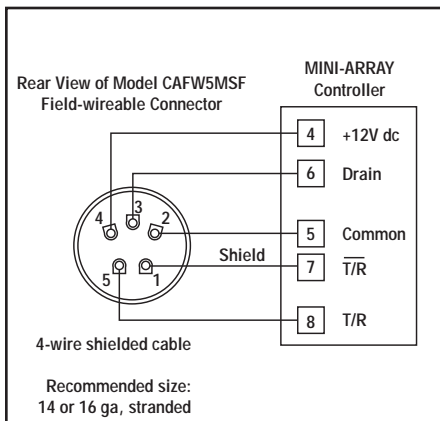

Figure 5. MINI-ARRAY Sensor cable hookup to the field-wireable connector
- 2) To install the field-wireable connector, follow the wiring connections as shown in Figure 5. Be sure to allow enough space at the top of the Heated Enclosure when mounting the sensors, to accommodate this connector's additional length (as compared with the standard Banner QD cable). See page 7 for more information about the field-wireable connector.